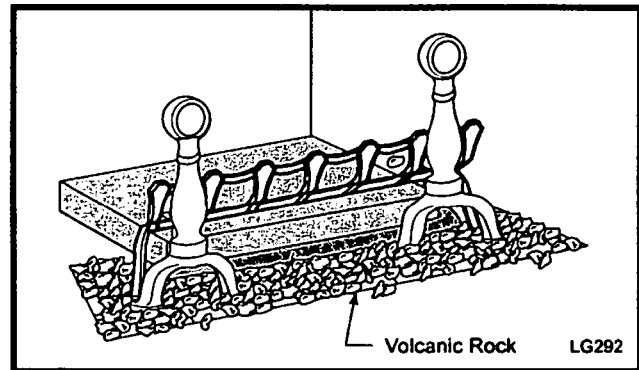

Fig. 42 Place volcanic rock on lower refractory in front of burner housing.
3. Place the volcanic rock over the lower refractory in front of the burner tube and around the burner assembly as desired. (Fig. 42)